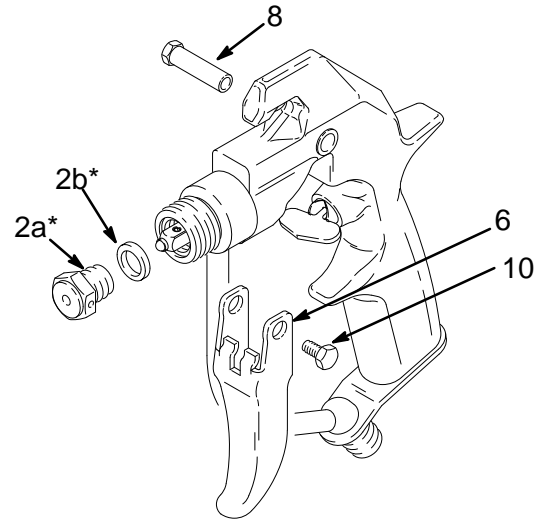

Fig. 6
3. Remove the diffuser/seat (2a*) and gasket (2b*). Remove the screw (10), pivot pin (8), and trigger (6). See Fig. 6.